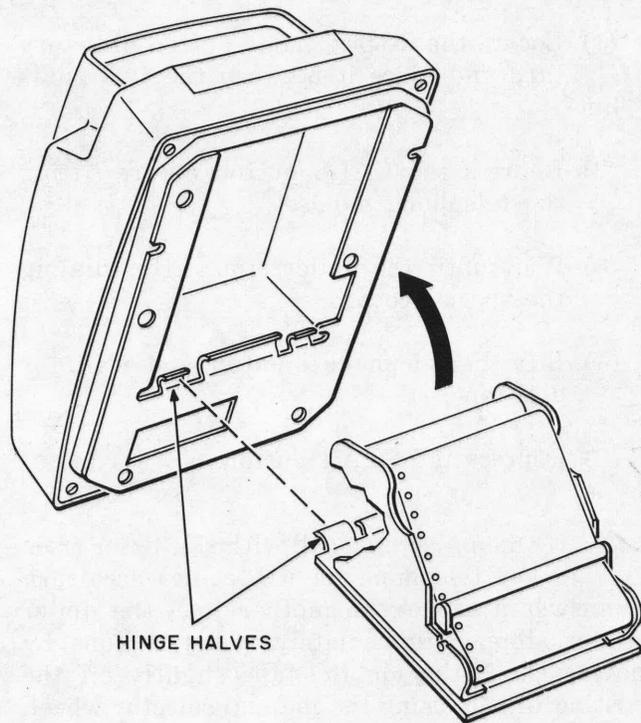

Fig. 7 — Installing Tape Cartridge
- (1) Raise the front end of the dialer.
- (2) Mate the hinge halves on the rear of the tape cartridges with the hinge halves at the rear of the opening in the bottom of the dialer (see Fig. 7).
- (3) Push upward on the tape cartridge to lock it into place.